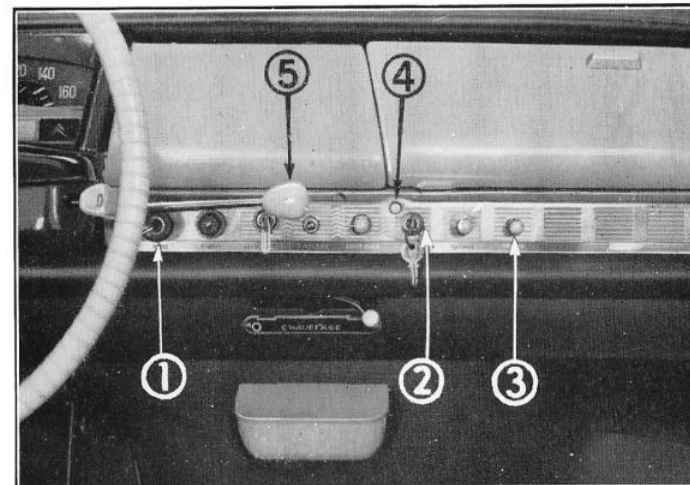
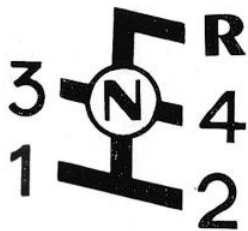

Figure 4
Figure 5
Make sure that the gear lever **5** (fig. 4) is in the neutral position (fig. 5).
Switch on the ignition (key at **2**, fig. 4).
**When the engine is cold** : pull out the choke control **3** (fig. 4) as far as possible and press on the starter button **4** (fig. 4), without touching the accelerator pedal. If the
Depress the clutch pedal as far as possible. Move the lever **5** (fig. 4) situated under the steering wheel to the selected gear position. Delay the movement of the lever for a short time in neutral position when moving from one gear to another.
The gear lever can be moved in three parallel planes (fig. 5). In the plane nearest the driver, it controls the 1st and 2nd gears.